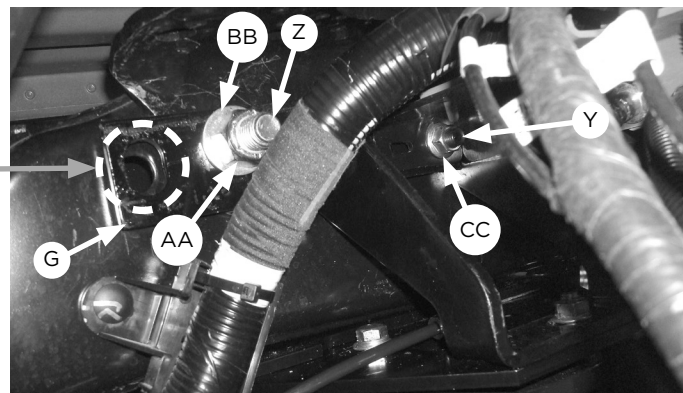

Fig. 30
4. Set the upper brace (G) in place over the 50mm set screw (Y) and against the frame. Ensure the large slot closest to the middle of the brace lines up with the fifth wheel bracket hole in the frame. Set the stock brake line bracket, previously removed, over the 50mm set screw and on top of the brace. Thread the M10 serrated flange lock nut (CC) onto the set screw. Reinstall the factory fifth wheel hardware previously removed (if equipped) or use the supplied 5/8" (Z, AA, BB) hardware through the frame and brace (Fig. 30). Leave loose at this time.